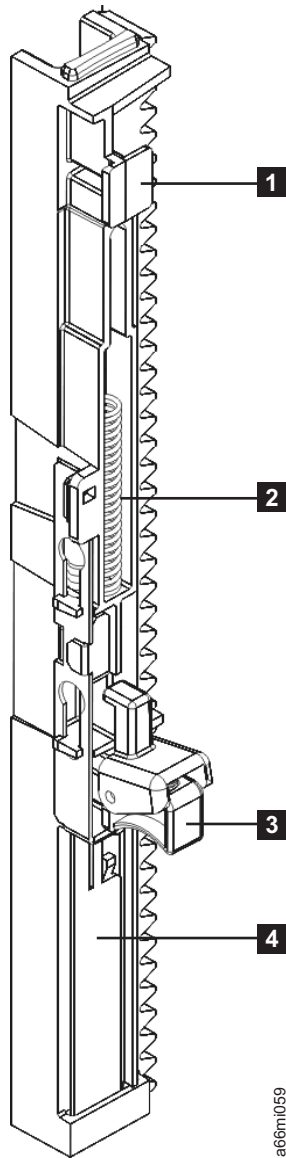

Figure 8-108. Gear rack (detail)
6. Remove the gear rack by pulling the black tab (**1** in Figure 8-108 on page 8-100) and the gear rack locking mechanism (**3** in Figure 8-108 on page 8-100) through the keyhole slots.
Note: Don't lose the spring (**2** in Figure 8-108 on page 8-100) that is recessed in the gear rack slot.
2. Using your thumb, push the metal slide (**4** in Figure 8-108) toward the gear rack locking mechanism (**3** in Figure 8-108) and hold it in place while inserting the black tab (**1** in Figure 8-108) and locking mechanism into the keyhole slots in the library chassis.